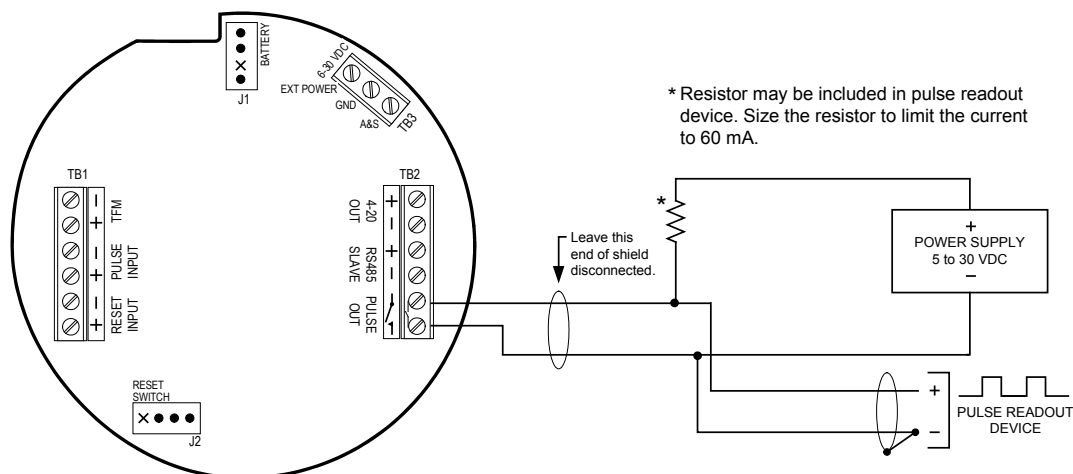

Figure 2.12—Pulse output wiring
7. Connect wiring for output signals, if appropriate. See Figure 2.12 through 2.17, pages page 28 through page 31.